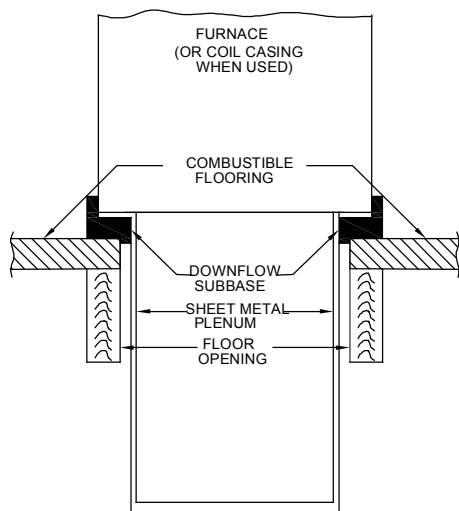
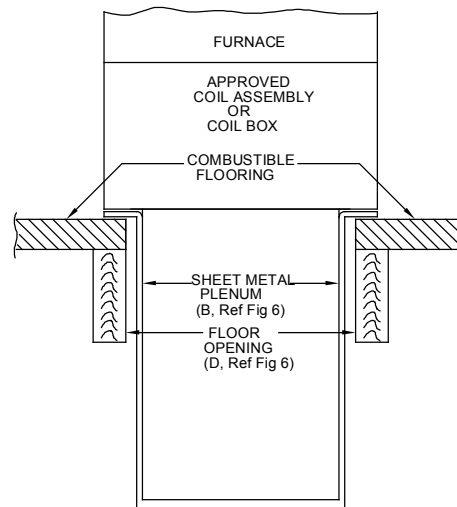

Fig. 7 - Furnace, Plenum, and Subbase Installed on a Combustible Floor
Fig. 8 - Furnace, Plenum, and Coil Assembly or Coil Box Installed on a Combustible Floor
4. If down flow subbase is used, install as shown in Fig. 7. If Coil Assembly or Coil Box is used, install as shown in Fig. 8.